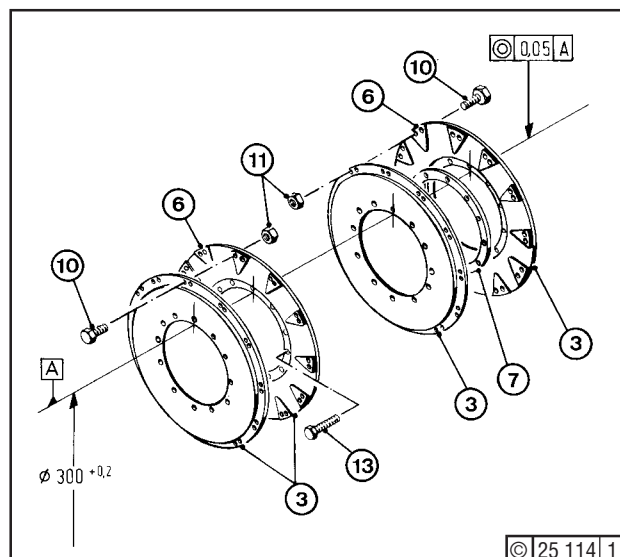

Fig. 3
Equip one pair of damping discs (3) - Fig. 3 - with threaded ring (7) and the other pair with hex. bolts (13) ready for bolting together. Now complete damping discs with triangular plates (6), hex. bolts (10) - inserted with Deutz DW 55 - and hex. nuts (11). Align damping discs and tighten hex. nuts (11) (Section 3.5, item 56).